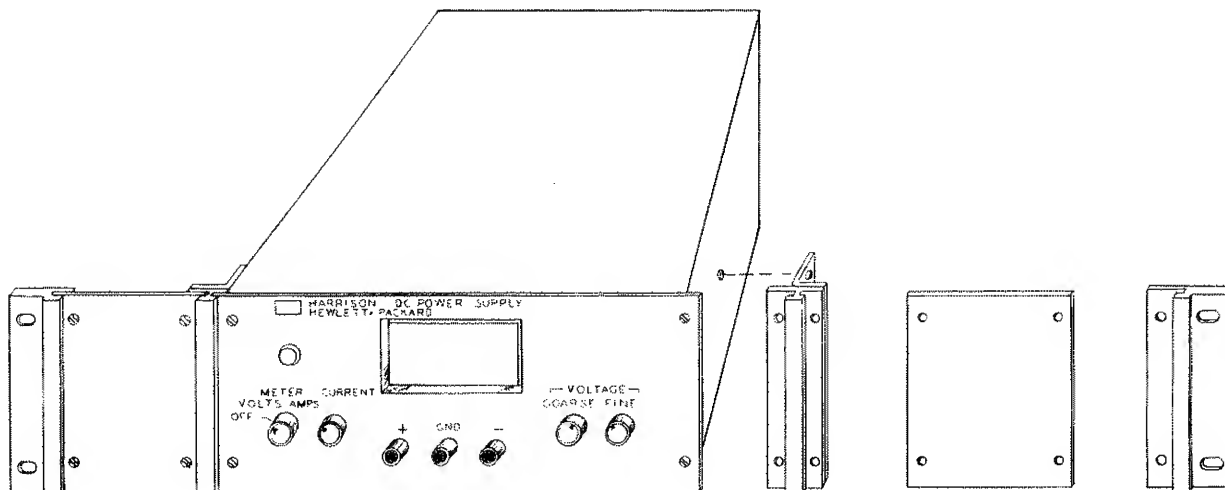

Figure 2-3. Rack Mounting, One Unit
- a. Bolt rack mounting ears, combining straps, and angle brackets to each side of center spacing panels. Angle brackets are placed behind combining straps as shown in Figure 2-3.